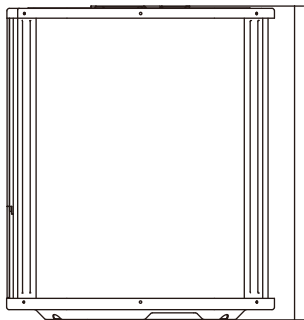
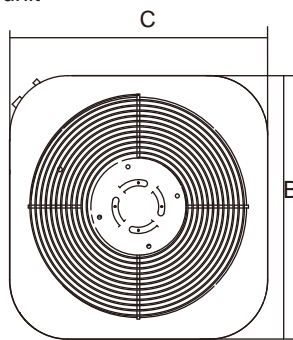

Fig.6-5
Fig.6-6
- The minimum distance between the outdoor unit and obstacles described in the installation chart does not mean that the same is applicable to the situation of an airtight room. Leave open two of the three directions (M,N,P) (Refer to Fig.6-5)
| 18 | 24.92in/633 | 21.81in/554 | 21.81in/554 | Refer to Fig.6-5 Fig.6-6 |